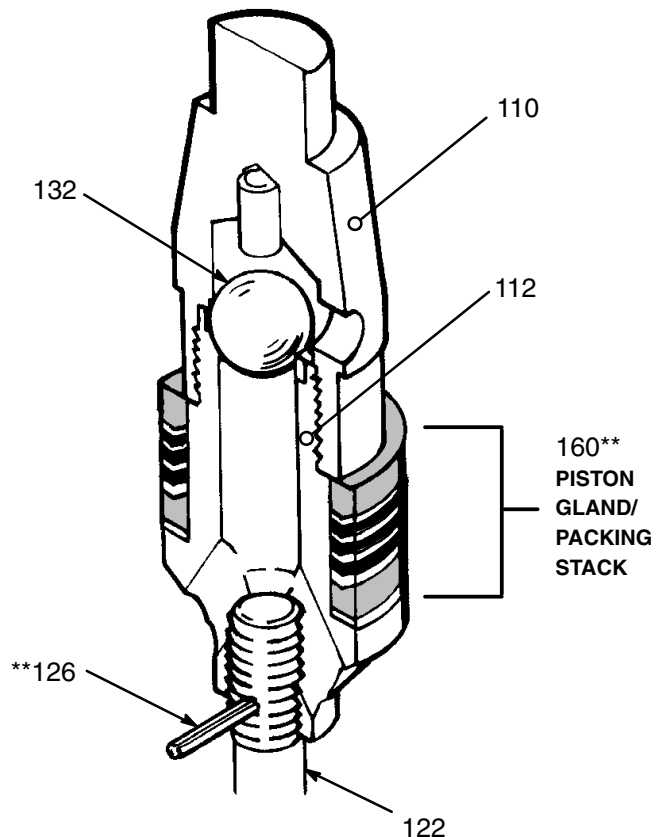

Fig 5
20. Refer to the illustration in Fig 5 for your displacement pump (217–201 or 220–449). Install the gland/packing stack (160**) on the piston valve (112) as follows, with the lips of the v-packings facing up.